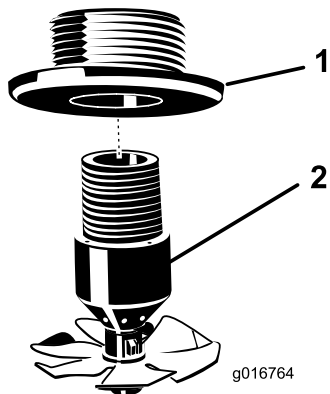

Figure 14
1. Install the rinse nozzle assembly to the bulkhead fitting (Figure 14).